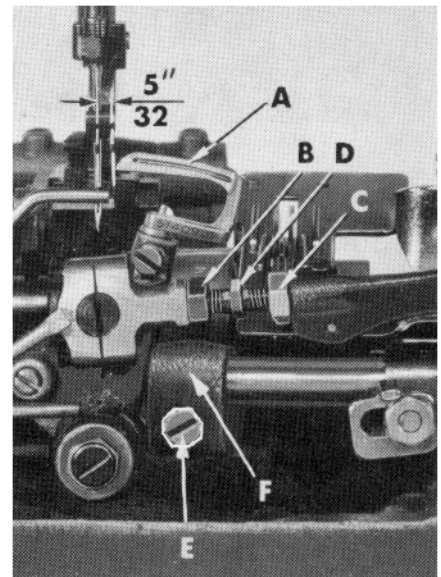

Fig. 2
Insert a new needle, type and size as specified, with spot or scarf to the rear. With the looper (A, Fig. 2) at its farthest position to the right, its point should be  $\frac{5}{32}$  inch from the centerline of the needle. If adjustment is required, loosen nut (B) (it has a left hand thread) and nut (C) on connecting rod (D) and turn the connecting rod forward or backward to obtain the  $\frac{5}{32}$  inch dimension (Fig. 2). Looper gauge No. 21225-5/32 can be used advantageously in making this adjustment. Retighten both nuts, first nut (C), then nut (B). Make sure the left ball joint is in vertical position and does not bind after adjustment.
The looper is set correctly front to back, as it moves to the left behind the needle, when its point passes as close as possible without contacting the needle (.001-.002). If adjustment is necessary, loosen screw (E, Fig. 2) in looper rock shaft arm (F), reposition looper as required and retighten screw (E).